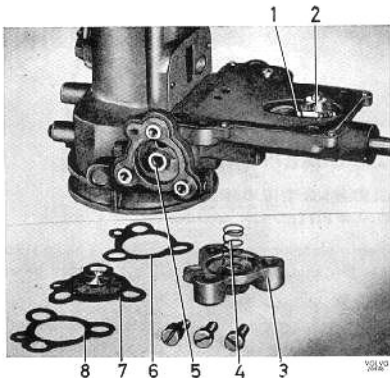

Fig. 84. Economizer valve
- Remove the float valve and the economizer valve, Fig. 84. Screw out the idle fuel jet.
- Check that the economizer valve disc (7, Fig. 84) is in good contact with its seat (5). The disc can be lapped in against the seat with fine grinding compound if necessary.